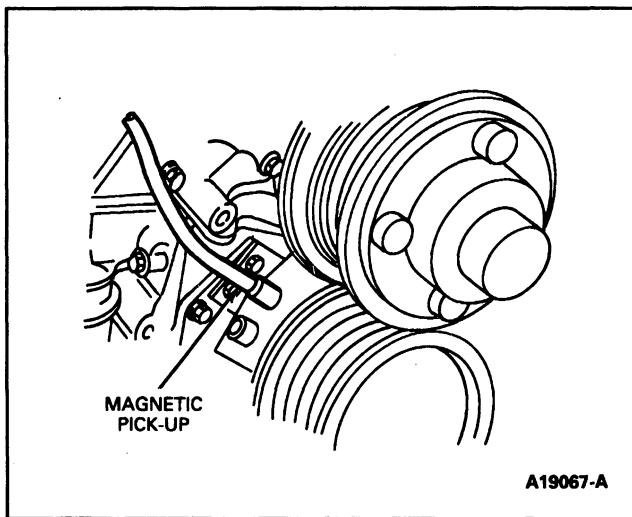

Figure 13: Magnetic Pickup—Dynamic Timing
2. Stop engine and install Dynamic Timing Meter, Rotunda 078-00200 or equivalent, by placing magnetic pickup in timing pointer probe hole (Figure 13). Insert pickup until it almost touches vibration damper.